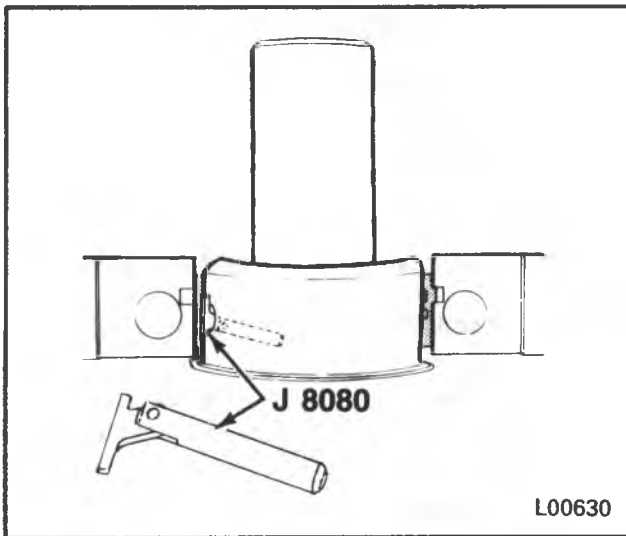

Figure 36 — Removing The Upper Main Bearing Insert
- Insert J 8080 into the crankshaft oil hole (figure 36).
- Insert J 8080 into a crankshaft main bearing oil hole (figure 36).